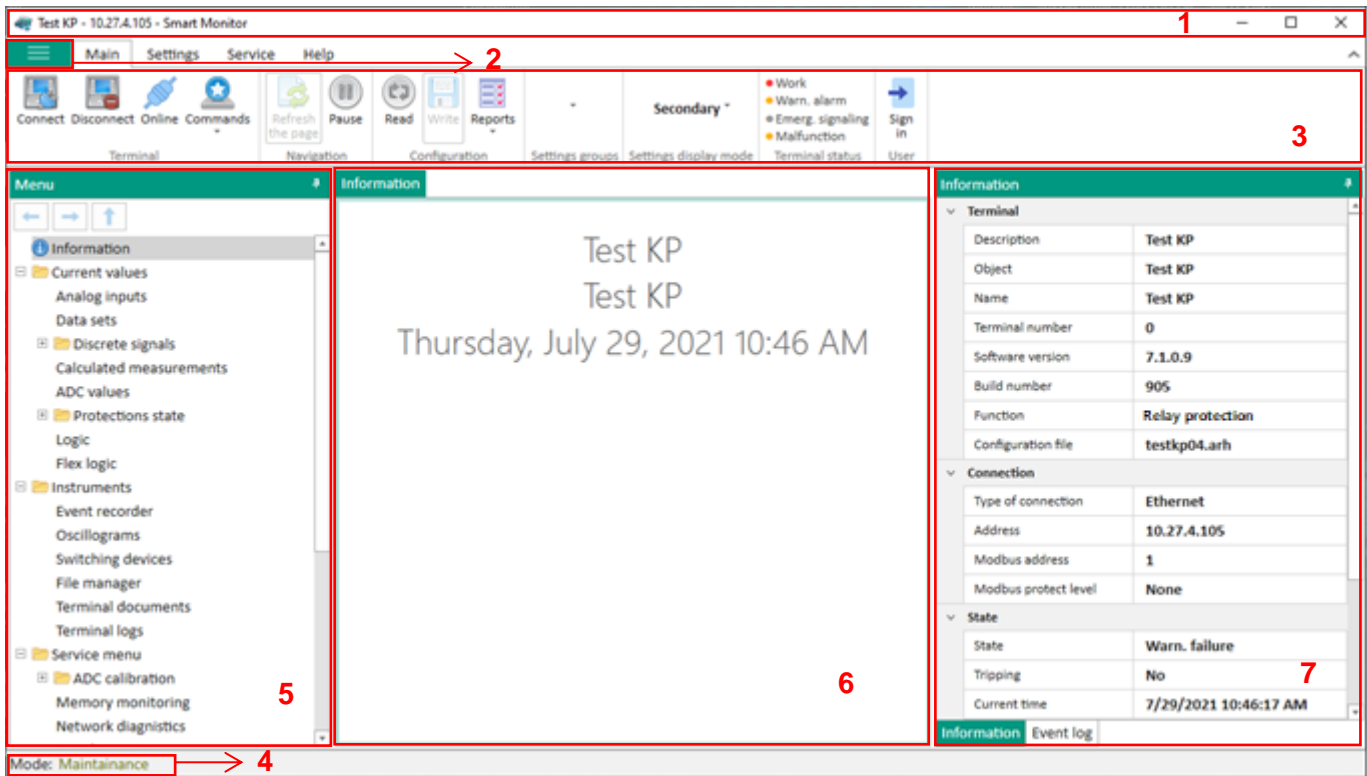

Figure 6 – Standard window of the program
After connecting to the device, a standard program window is displayed on the screen (Figure 6). The standard window contains the following elements:
The work area of the main program window (Figure 6, item 6) contains brief information about the device, the right part (Figure 6, item 7) contains general information about the device, its state and connection.